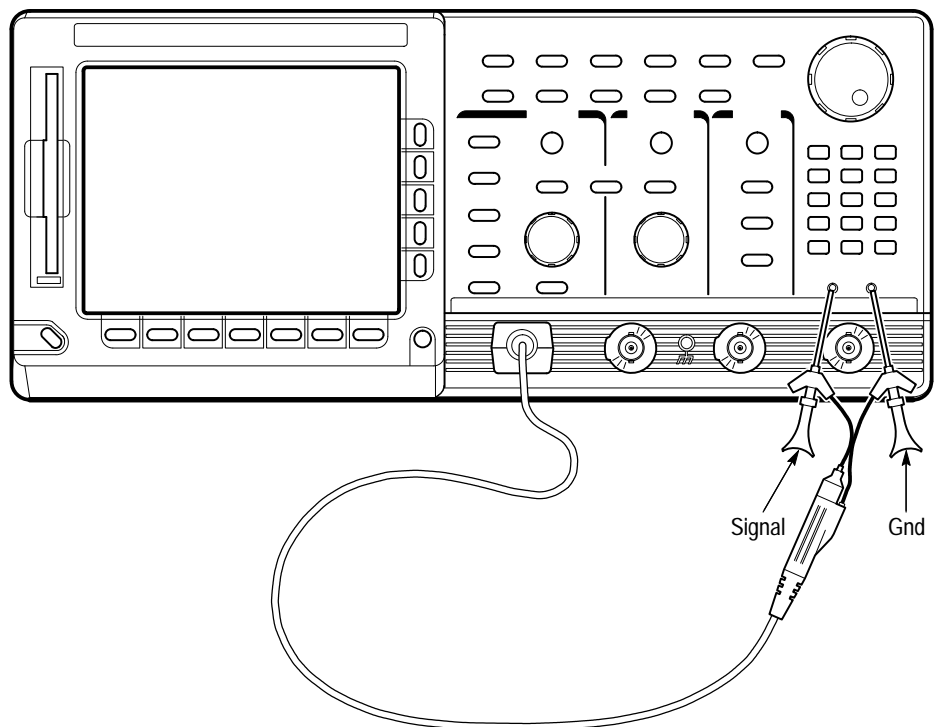

Figure 1–3: Universal Test Hookup for Functional Tests – TDS 600B Shown
- a. Hook up the signal source:** Install the probe on **CH 1**. Connect the probe tip to **PROBE COMPENSATION SIGNAL** on the front panel; connect the probe ground (typically black) to **PROBE COMPENSATION GND**. If using a P6243 or P6245 probe, you may want to attach a Y-lead connector and two SMD KlipChips as shown in Figure 1–3.